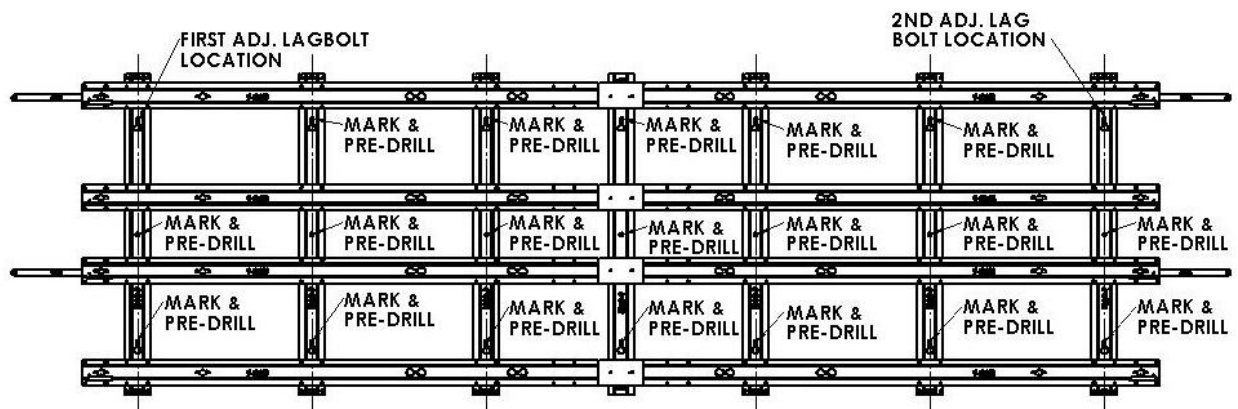

Figure 2
Use the frame as a template to mark the other locations of the adjustable lag bolts. Use three (3) per vertical channel, two keyholes and the center hole (**Figure 2**).
Loosen and remove the hex nut and flat washer securing the upper frame to the wall then place the upper frame back on the floor. Pre-drill marked holes using the 3/16" or 5mm drill bit then install the other adjustable lag bolts until the hex part of the bolt is flush to the wall (**Figure 2**).
Mark the locations of the adjustable lag bolts for the lower frame. Three per V-Channels, the same as the upper frame (**Figure 2**). Detach the lower frame from the top frame by unscrewing the screws on the Vertical joiner plate then place lower frame back on the floor.